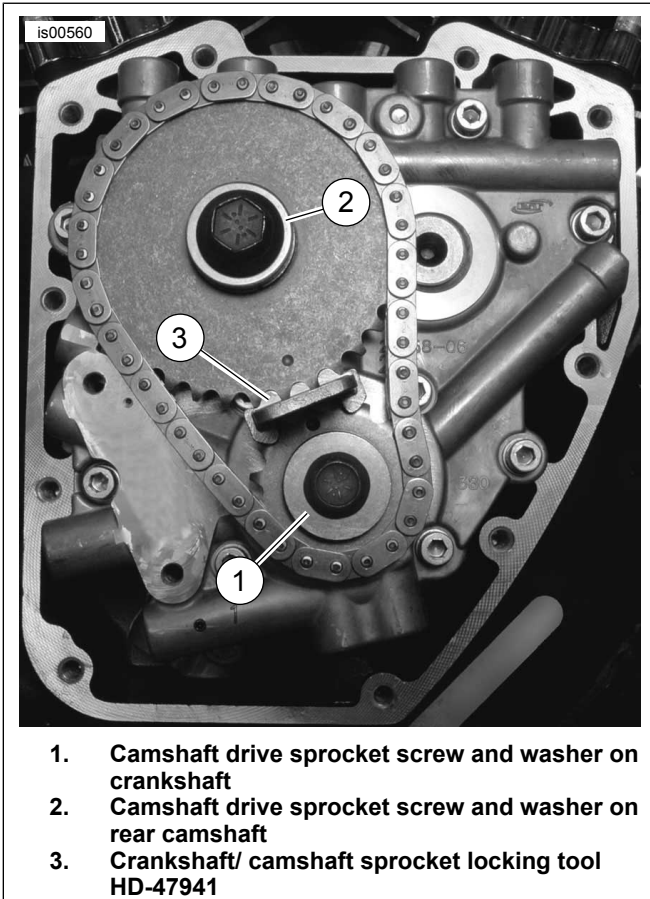

Figure 1. Camshaft Drive Sprocket Attaching Hardware and Locking Tool
2. See Figure 1.. Start the smaller flange bolt (1) with flat washer to secure the crank sprocket to the end of the crankshaft, but do not tighten.
3. Start the larger flange bolt (2) with flat washer to secure the primary camshaft sprocket to the end of the camshaft, but do not tighten.
4. Position the CRANKSHAFT/ CAMSHAFT SPROCKET LOCKING TOOL HD-47941 (3) between the crank and primary camshaft sprockets to prevent rotation. The handle of the tool is stamped "Crank" and "Cam" to verify proper orientation.